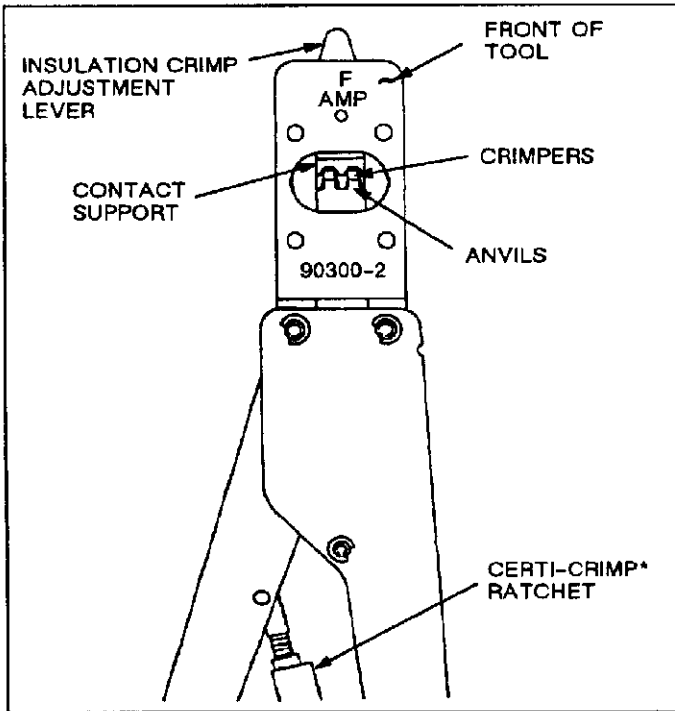

Fig. I-1
#### I-1. INTRODUCTION (Figures I-1 and I-2)
AMP Hand Crimping Tool 90300-2 (Figure I-1) is designed for crimping AMP Universal MATE-N-LOK\* and Universal MATE-N-LOK II loose-piece (LP) pin and socket contacts listed in Figure I-2. Read these instructions thoroughly before starting.
#### I-2. DESCRIPTION (Figures I-1 and I-3)